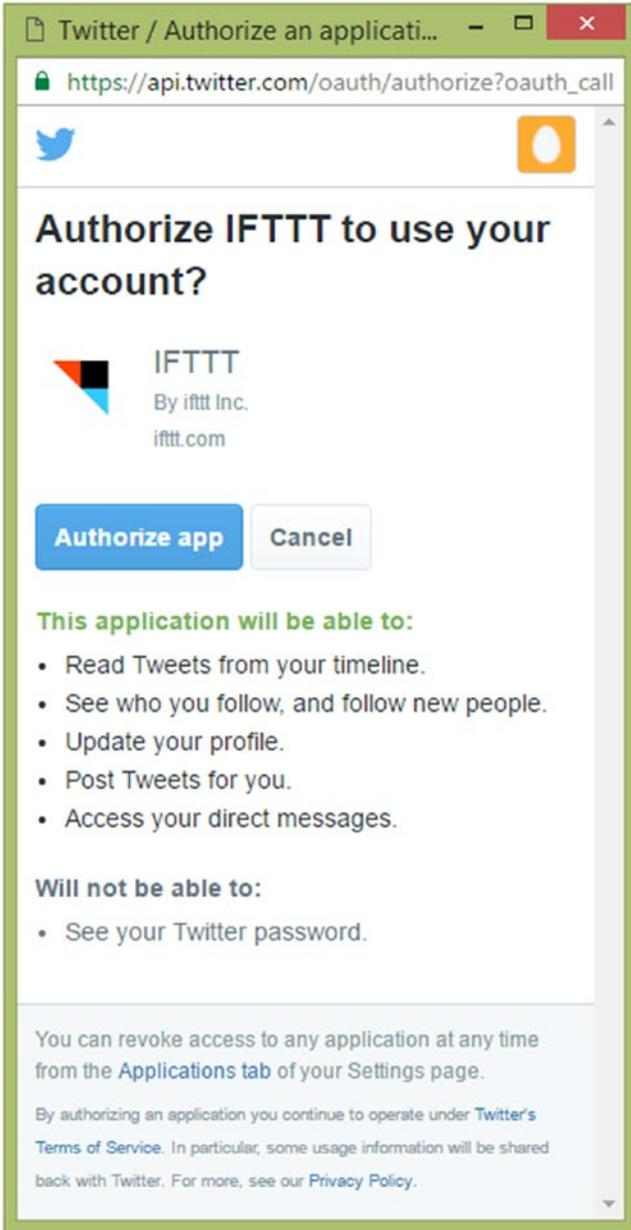

Figure 8-18. Authorize IFTTT to use your Twitter account
10. Click the **Authorize App** button to authorize IFTTT to use your **Twitter** account to send tweets, as shown in Figure 8-18.